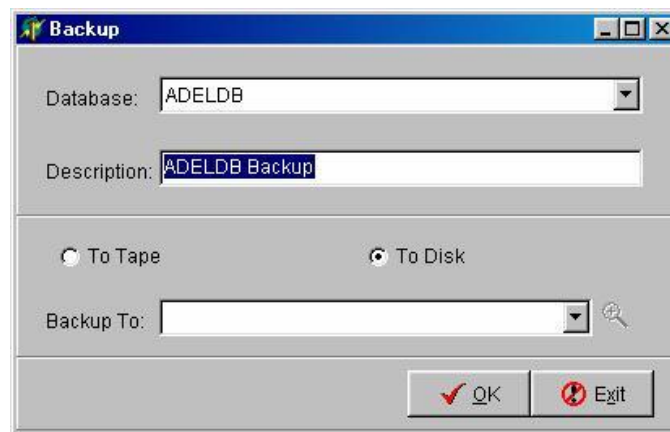

Figure 4-3
- 2) Click **Backup** to enter Backup window as shown in Figure 4-3.